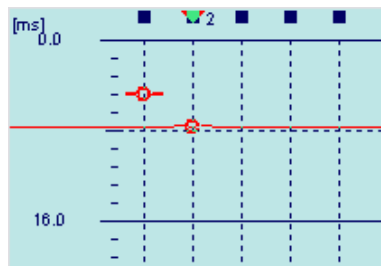

Figure 20 First break marker on trace 2
- Positioning a first break marker on trace 2 (Figure 20)